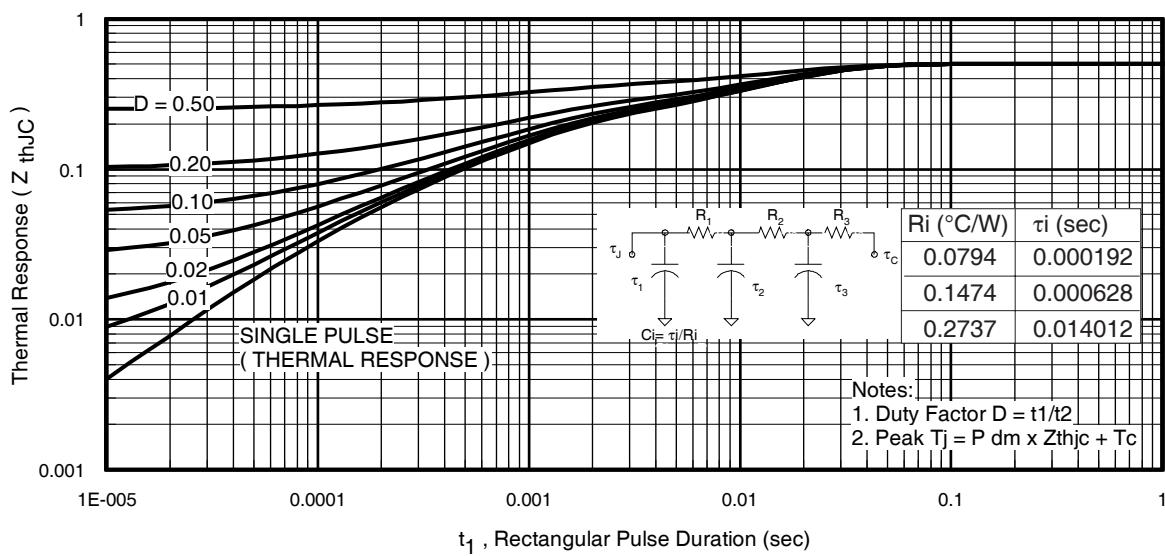
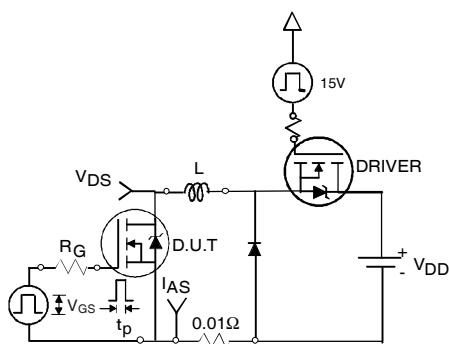

Fig 11. Maximum Effective Transient Thermal Impedance, Junction-to-Case
Fig 12a. Unclamped Inductive Test Circuit
- ① Repetitive rating; pulse width limited by max. junction temperature. (See fig. 11).
- ② Limited by $T_{J\text{max}}$, starting $T_J = 25^\circ\text{C}$, $L=0.043\text{mH}$, $R_G = 25\Omega$, $I_{AS} = 140\text{A}$, $V_{GS} = 10V$. Part not recommended for use above this value.
- ③ Pulse width $\leq 1.0\text{ms}$; duty cycle $\leq 2\%$.
- ④ $C_{oss \text{ eff.}}$ is a fixed capacitance that gives the same charging time as C_{oss} while V_{DS} is rising from 0 to 80% V_{DSS} .
- ⑤ Limited by $T_{J\text{max}}$, see Fig.12a, 12b, 15, 16 for typical repetitive avalanche performance.
- ⑥ This value determined from sample failure population. 100% tested to this value in production.
- ⑦ This is applied to D²Pak, when mounted on 1" square PCB (FR-4 or G-10 Material). For recommended footprint and soldering techniques refer to application note #AN-994.
- ⑧ R_θ is measured at T_J of approximately 90°C .
- ⑨ Solder mounted on IMS substrate.
3. Equation below based on circuit and waveforms shown in Figures 12a, 12b.
$Z_{thJC}(D, t_{av})$ = Transient thermal resistance, see figure 11)